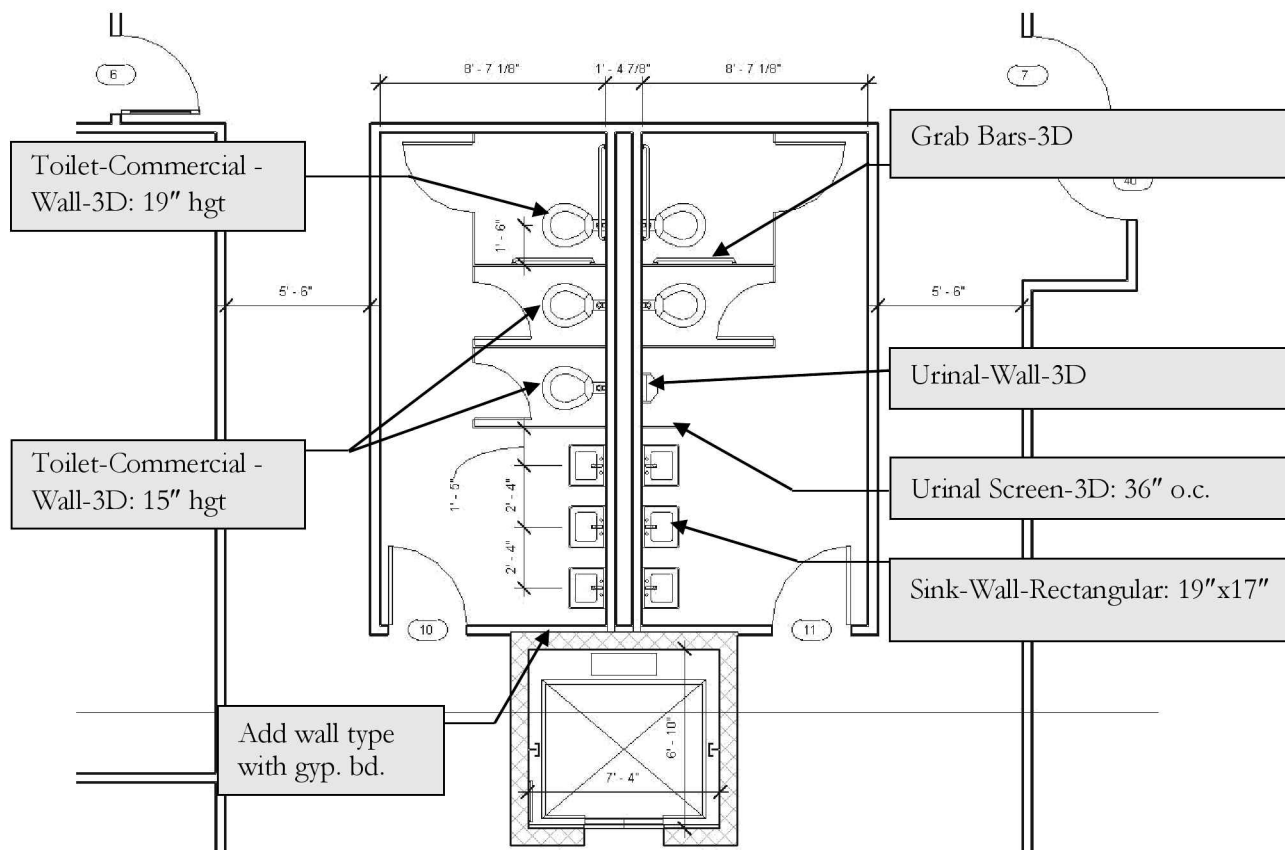

FIGURE 11-1.4 Toilet room layout
10. Add an additional **4 $\frac{7}{8}$ "** gyp. bd. wall as shown in **Figure 11-1.4**.
12. Add the additional components as shown in **Figure 11-1.4**.